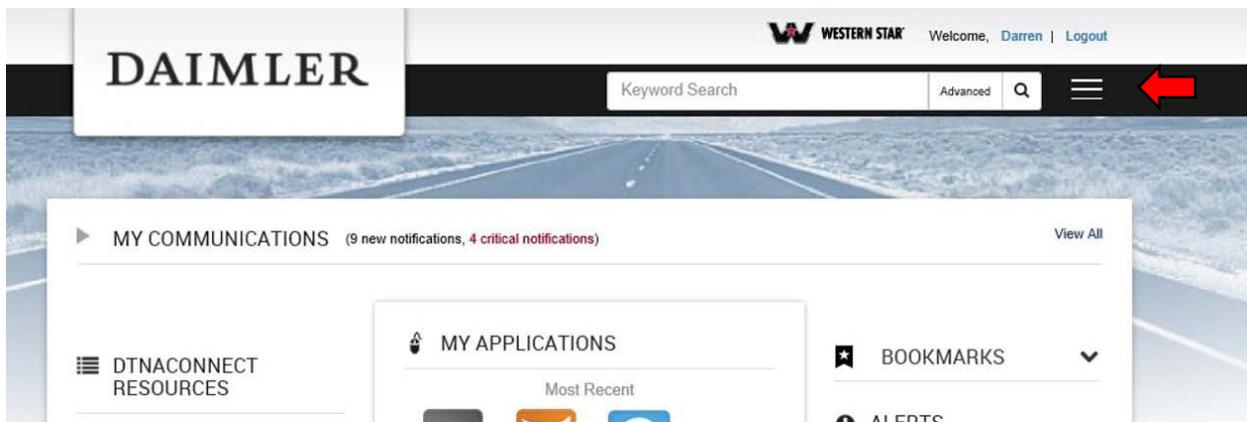

Fig . 1, DTNAConnect Home Screen
3. On the laptop, go to DTNAConnect and select the three menu bars in the upper right-hand corner. See Fig. 1.